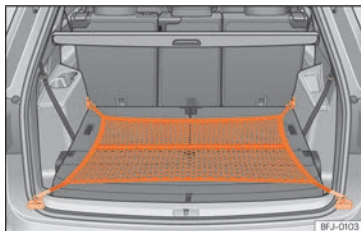

Fig. 132 In the luggage compartment: net bag hooked up at floor level.
- Secure the net hooks to the fastening rings »» Fig. 132 »» ⚠. The bag zip should be facing upwards.